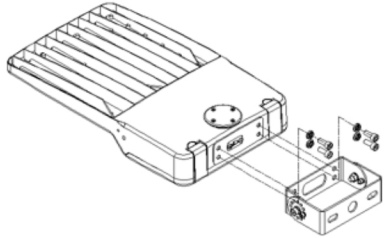

Fig. 5
1. Assemble U bracket to Fixture, as shown in Fig. 5.